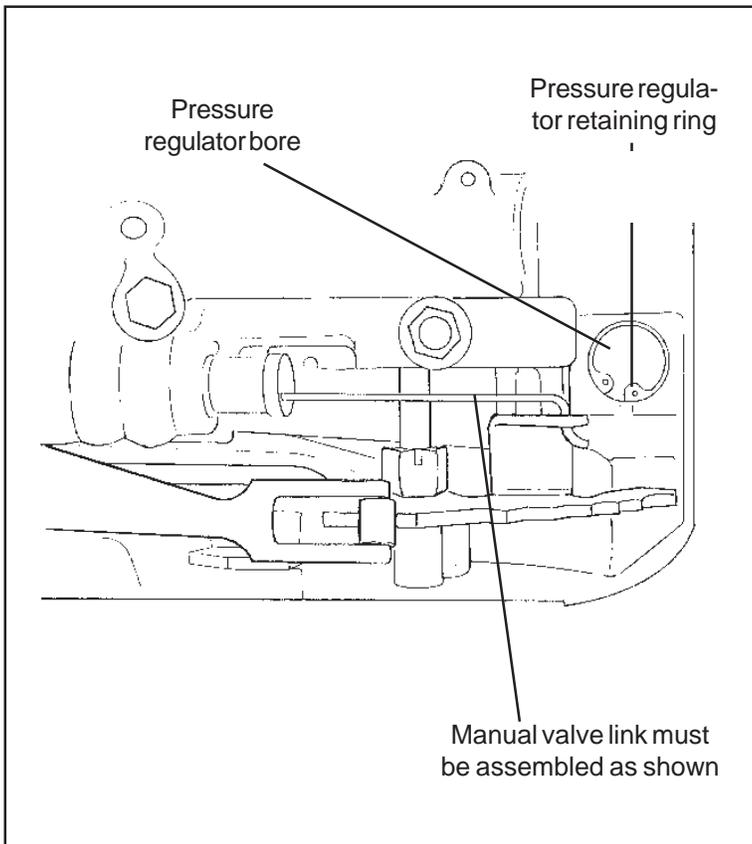
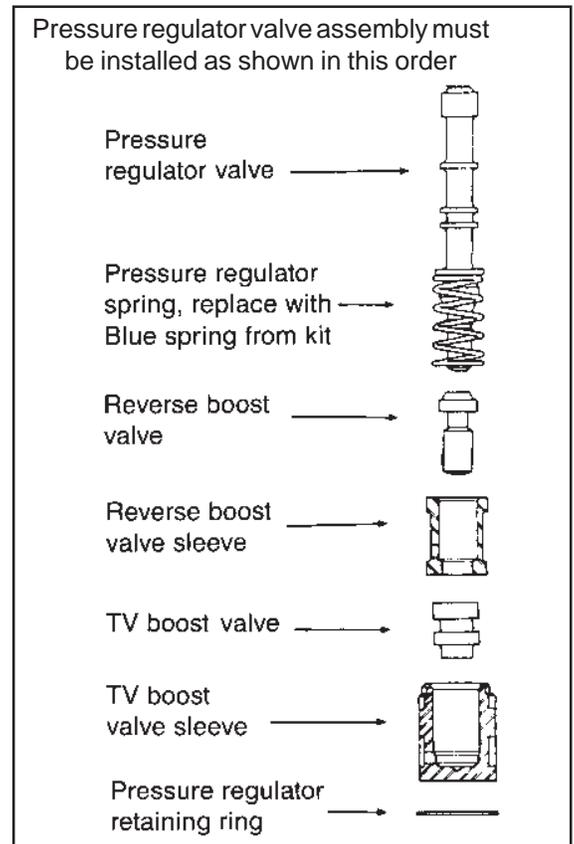

Figure 6
Figure 7
Remove the snap ring at the end of the pressure regulator bore in the oil pump assembly (**See Fig. 6.**) Use a screwdriver to hold the pressure regulator assembly while removing the retaining ring. If the sleeves stick in the bore, lightly rap the sleeve with a small rod and a mallet (piece of 2X4.) Remove two sleeves with valves and the pressure regulator spring. The pressure regulator may fall out but it does not need to be removed. Reassemble the pressure regulator assembly using the **BLUE** spring from the kit (**See Fig. 7.**) Use the new retaining ring from the kit. Make sure the retaining ring is firmly seated in its groove when assembled.
STEP 19. Valve body installation. Make sure check balls are in proper locations. Position the manual valve so the link rod can be engaged (See Fig. 6.) The link rod must be placed into the hole of the manual rod at a right angle, then rotated to allow the valve to enter the valve body bore. Do not force the valve at any time. When the valve is fully engaged, align the valve body and case holes then install one bolt finger tight to hold valve
4: Regulator valve retaining ring fully seated in groove. (**See Fig. 6.**)